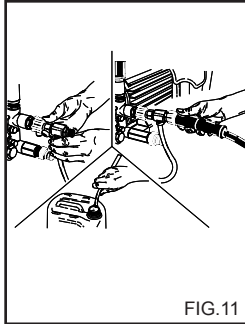

FIG.11
**BRUK AV SETT FOR VASKEMIDDELOPPSUGING (fig. 11). (Ekstrautstyr)**